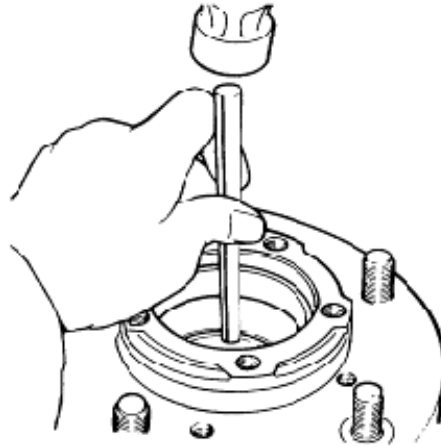

Figure 95 Bearing Cup Removal
- u. Remove the bearing cups using a suitable drift or press (Figure 95).